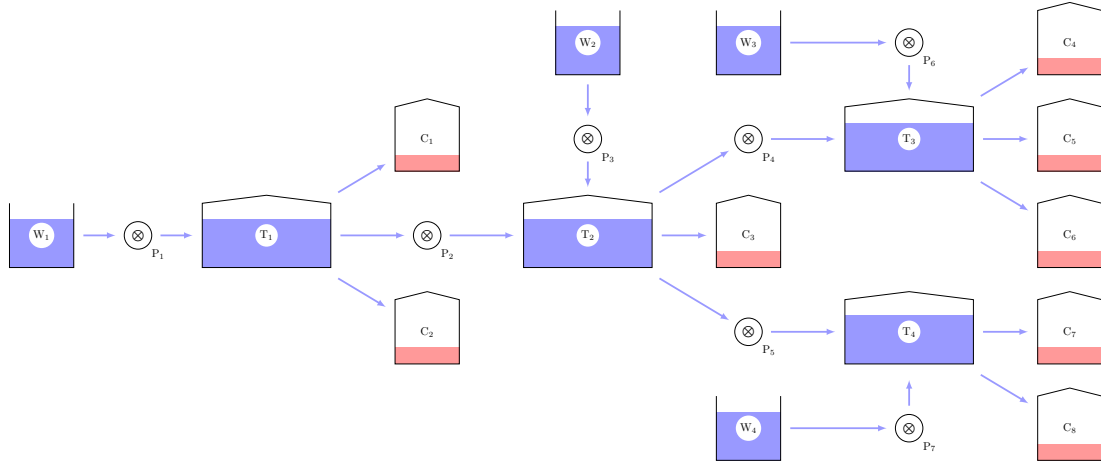

Figure 1: Simple water supply network
2. Use your subsystems (via copy and paste) to model the simple water supply network from Fig. 1. Assume the parameters from Tab. 1 and Tab. 2 plus $c_i = 100$ and $c_{i,\text{init}} = 50$ for $i \in \{1, 2, 3\}$.
This the semester project only simulates writing a scientific paper, you will probably not be able to really prove that no one did before what you are going to do with your project. Please take the following perspective: You were given the specification of components of a fictitious water supply network and you had to develop a controller (or a set of controllers if you use single controllers for each pump). You demonstrate the usefulness of your controller(s) on the toy example (Fig. 1) and possibly some larger use cases.